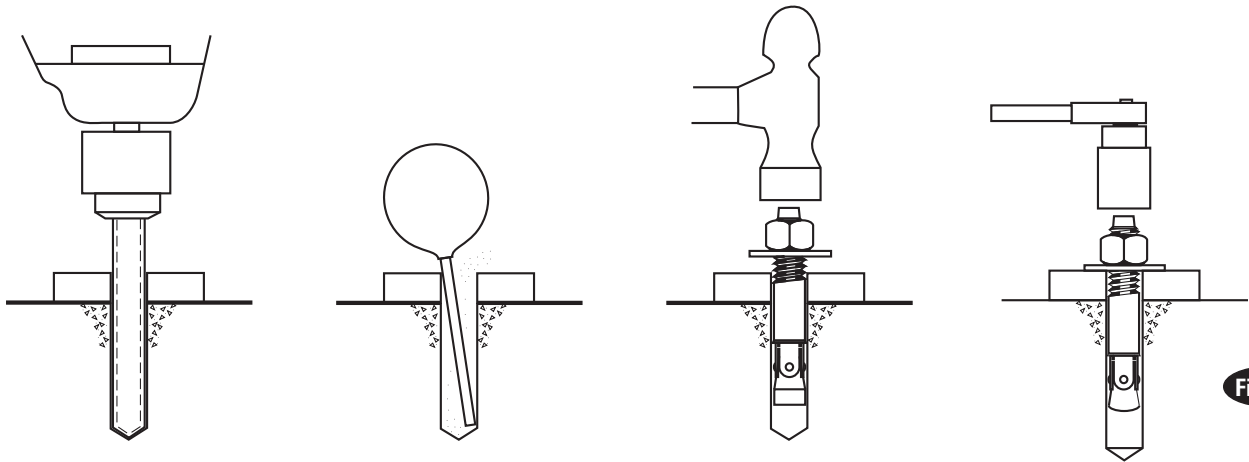

Fig. 24
Drill (10) 3/4" dia. holes in concrete floor using holes in column base plate as a guide. See Fig. 24 for hole depth, hole spacing, and edge distance requirements.